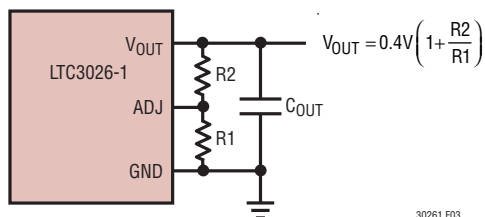

Figure 3. Programming the LTC3026-1
**ADJ (Pin 8):** Output Adjust Pin. This is the input to the error amplifier. It has a typical bias current of 0.1nA flowing into the pin. The ADJ pin reference voltage is 0.4V referenced to ground. The output voltage range is 0.4V to 2.6V and is typically set by connecting ADJ to a resistor divider from OUT to GND. See Figure 3.
The output voltage is set by the ratio of two external resistors as shown in Figure 3. The device servos the output to maintain the ADJ pin voltage at 0.4V (referenced to ground). Thus, the current in R1 is equal to 0.4V/R1. For good transient response, stability and accuracy the current in R1 should be at least 80 $\mu$ A, thus, the value of R1 should be no greater than 5k. The current in R2 is the current in R1 plus the ADJ pin bias current. Since the ADJ pin bias current is typically <10nA it can be ignored in the output voltage calculation. The output voltage can be calculated using the formula in Figure 3. Note that in shutdown the output is turned off and the divider current will be zero once  $C_{OUT}$  is discharged.